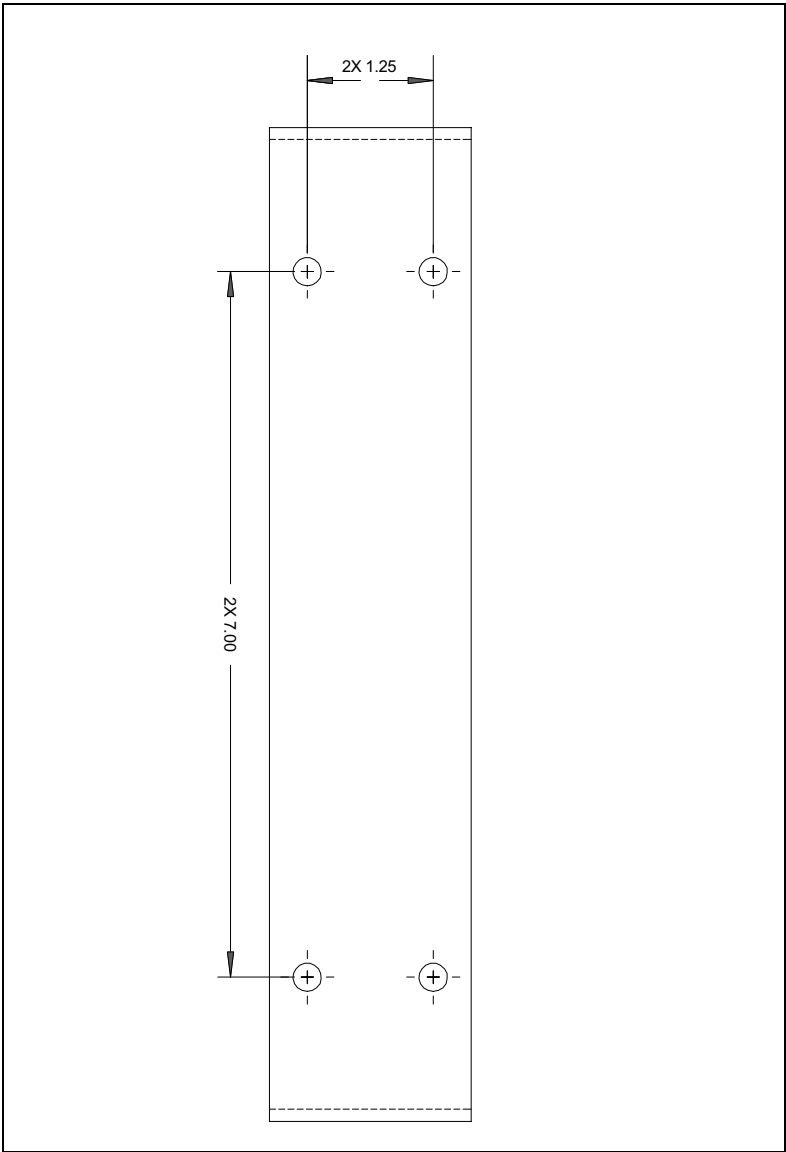

Figure 6 Mounting bracket dimensions
- Drill the two top holes 1.25 inches (3.2 cm) apart. Drill the bottom holes 7 inches (18 cm) below the top holes. Figure 6 provides a template for drilling the holes.
Figure 6 provides dimensions for drilling holes into the side of the building.